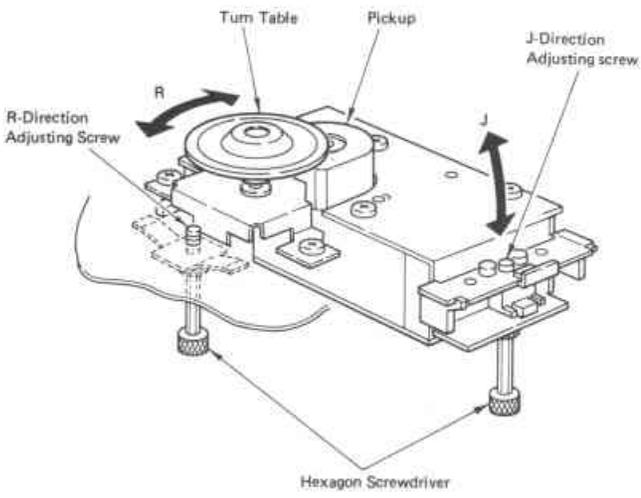
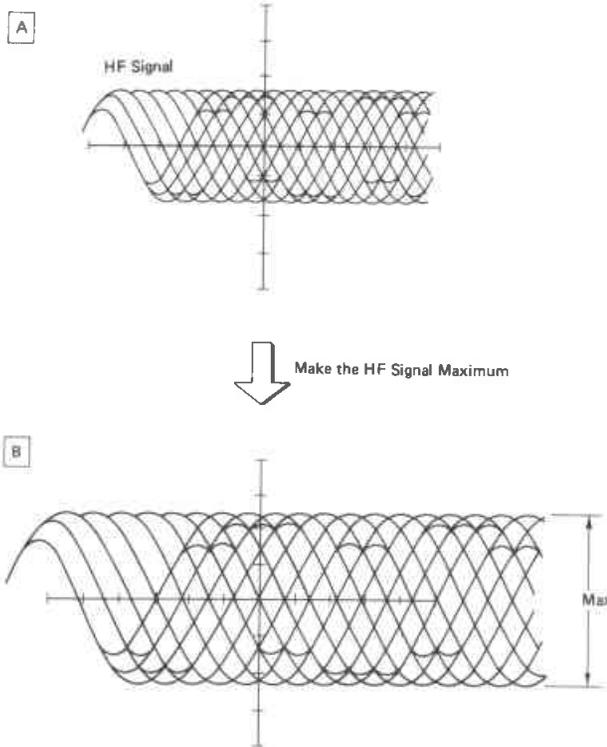

Fig. 12
Fig. 13
- 7) Adjust the R-direction of the pickup. (Fig. 12) First, fit the hexagon screwdriver over the head of R-direction adjusting screw. Turn the adjusting screw clockwise or counterclockwise to make the HF signal shown in Fig. 13 maximum.
- 8) Adjust the J-direction of the pickup. (Fig. 12)